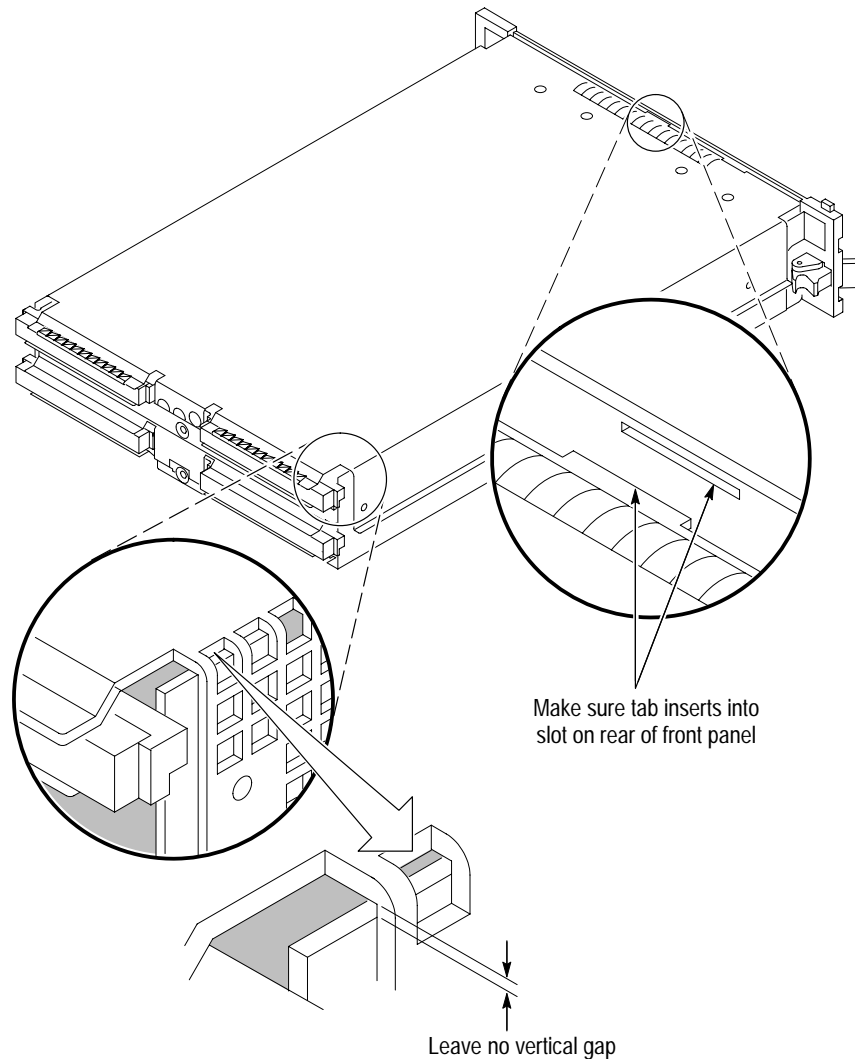

Figure 18: Seating the cover on the chassis
12. Push forward on the cover so the tab on the front edge of the cover inserts into the rear of the front subpanel. Make sure that the cover is fully seated (no gaps) against the front and rear chassis flanges (see Figure 18).
6. Push forward on the cover so the tab on the front edge of the cover inserts into the rear of the front subpanel. Make sure that the cover is fully seated (no gaps) against the front and rear chassis flanges (see Figure 18 on page 36).